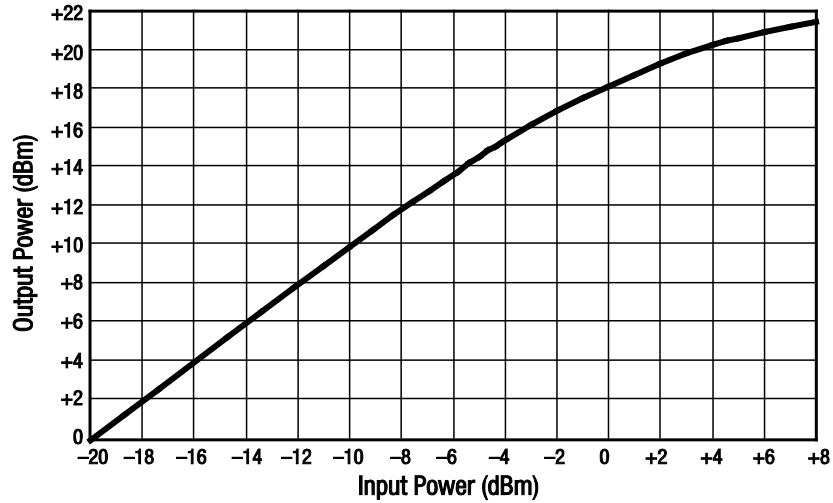

Figure 1. Output Power vs Input Power
The SKY65344 and SKY65343 FEMs incorporate a highly efficient Power Amplifier (PA) in the transmit path that can deliver up to +20 dBm at the antenna port (see Figure 1). Both modules also provide harmonic filters that guarantee a level of harmonics lower than -44 dBm, which eliminates the need for additional filters in the transmit path to be compliant with regulatory standards (Table 1 summarizes the limits for each standard). This facilitates RF design efficiency, and reduces the Bill of Materials (BOM) count and cost.